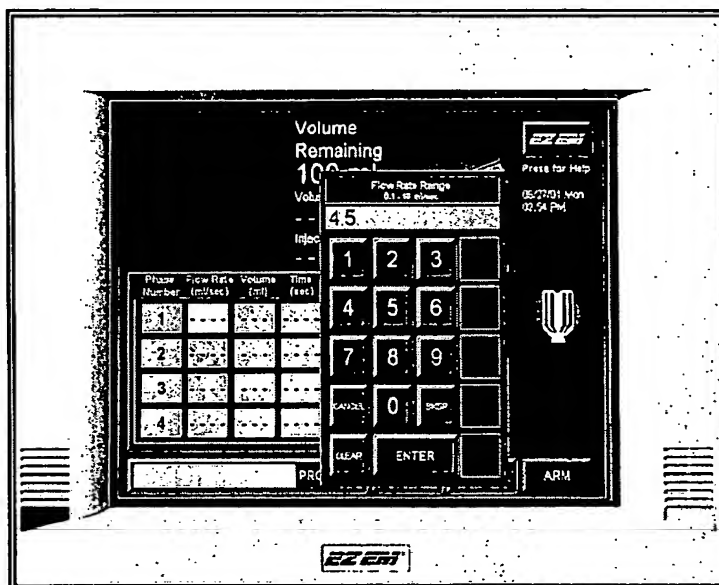

Figure 2.19 Flow Rate Range
1. For the current phase being programmed, press the flow rate field. A Flow Rate Range data input pop-up window will appear as shown in Figure 2.19.